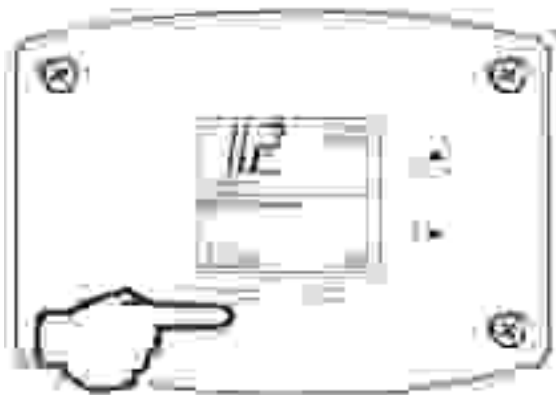

Fig. 54
3. Press the 'Select' button until a number value is displayed with 'Flame Current' to the right of the number. The value displayed is in microamps ( $\mu\text{A}$ ). (Fig. 54)